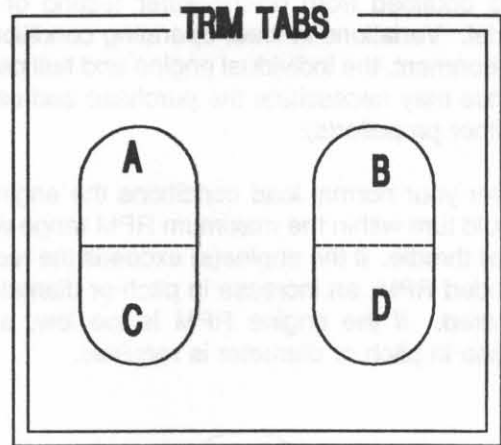

Figure B9 Trim Tab Switches
The trim tab control uses two (2) momentary switches. The switches control the attitude or position of the boat. See Figure B9.